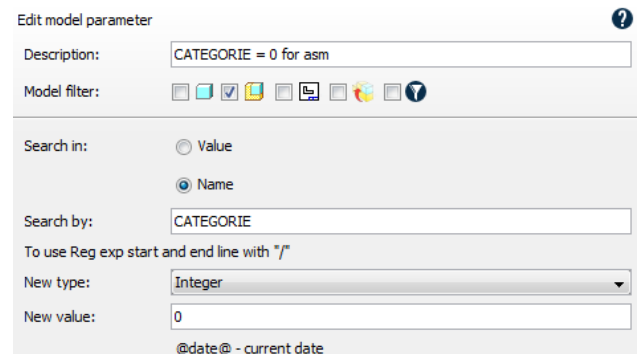

Figure 9 - Editing parameters
4. The CATEGORY parameter shall - if it is “-1” - obtain different values for assemblies and parts. For assemblies, the parameter shall be filled with 0. For parts, it shall be filled with 1. The parameter shall not be changed if it contains any other number. Create an action “**Edit parameters**” and establish the simple filters (ASM, PRT, DRW) “**Only for assemblies**”. Also observe “Figure 9 - Editing parameters”.